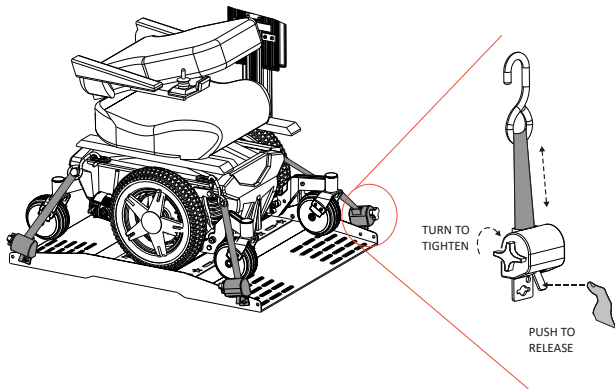

Figure 3-7
1. With the optional Q'Strait retractors, place each hook in the appropriate anchor plate slot, U-bolt, or tie-down loop. The straps will automatically retract and secure the mobility device. Make sure each strap retracts without any interference or slack in the strap. Adjust if necessary. To release, press and hold the lever to release the straps and then remove the hooks. *See Figure 3-7.*